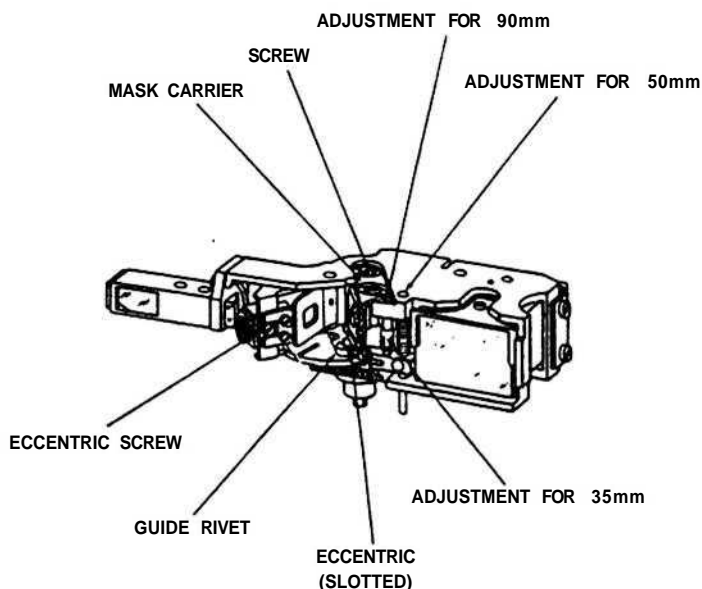
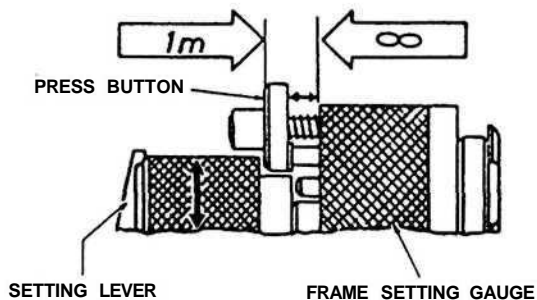

Figure 4-22. Range-Viewfinder Adjusting Points.
Figure 4-28. Frame Setting Gauge.
- (1) Mount the eyepiece lens 42-582.03-Z1W1 on the rangefinder (fig. 4-22) and secure the distance setting gauge 42-582.01-Z1A10 in the lens mounting flange. Place the camera in the holder of the calibrating stand (fig. 4-23) and adjust the focusing telescope to view the 10-meter graticule (fig. 4-24). Set the index of the distance setting gauge to infinity and view the graticule through the telescope.
- (2) Turn the eccentric shaft (fig. 4-27) with tool 42-253.01-703W2 until the rangefinder image coincides laterally with the graticule (fig. 4-24). Adjust vertical image coincidence by turning the eccentric screw (fig. 4-22) with tool 42-582.03-Z1W6.
c. *Checking and Adjusting Viewfinder Parallax (fig. 4-22, 4-28).*
- (2) View the 1-meter target through the camera viewfinder and 90mm bright-line frame which has been positioned by the setting gauge. The bright-line frame must coincide with the solid frame lines. If it does not, proceed as follows:
- (a) Turn the slotted eccentric (fig. 4-22) until the viewfinder's bright-line frame is parallel with the solid frame lines of the graticule.
- (b) Turn the guide rivet (fig. 4-22) with tool 42-582.03-62W2 until the bright-line frame coincides with the solid frame lines of the graticule.
- (d) If the lines do not reasonably coincide at infinity, loosen the two screws (fig. 4-22) and shift the entire bright-line frame assembly. Recheck alternately between 1-meter and infinity. Readjust as necessary, with the guide rivet and by moving the mask assembly, until coincidence is obtained at both settings. Coincidence at 1-meter should be precise.
- (1) Lock the frame setting gauge 42-253.01-Z1A107 (fig. 4-28) in the lens mounting flange, and place the setting lever of the gauge at mid-point to position the 50mm bright-line frame.
- (2) Observe the 50mm bright-line frame in the viewfinder and rotate the large knurled portion of the frame setting gauge back-and-forth within its limits. Alternately depress and release the press button, while rotating the gauge. (Pushing the press button in positions the bright-line frame for infinity, and releasing it simulates the frame position at a distance of 1-meter). The 50mm bright-line frame should be fully visible without the 90mm or 35mm frames appearing in the field. If this condition is not met, proceed as follows:
- (a) Turn the 50mm adjusting shaft (fig. 4-22) until only the 50mm bright-line frame is seen in its entirety.
- (b) Repeat the checking procedures in (2) above.
- (3) Release the setting lever and rotate the front portion of the frame setting gauge to position the 90mm bright-line frame.
- (4) Observe the 90mm frame in the viewfinder and follow the procedures in (2) above. The 90mm bright-line frame should be fully visible without the 35mm or 50mm frame appearing in the field. If this condition is not met, proceed as follows:
- (a) Turn the 90mm adjusting shaft (fig. 4-22), until only the 90mm bright-line frame is seen in its entirety.
- (b) Repeat the checking procedures, but for the 90mm frame, as in (2) above.
(5) Rotate the front portion of the frame setting gauge to position the 35mm bright-line frame.
(6) Observe the 35mm frame in the viewfinder and follow the procedures in (2) above. The 35mm bright-line frame should be fully visible without the 50mm or 90mm frame appearing in the field. If this condition is not met, proceed as follows:
(a) Turn the 35mm multi-slotted adjusting nut (fig. 4-22) until only the 35mm bright-line frame is seen in its entirety.